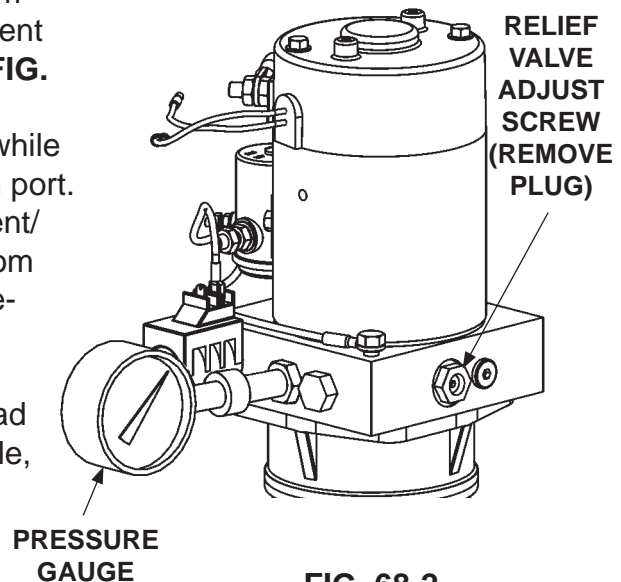

FIG. 68-2
3. With platform on the ground, remove the pressure hose and fitting from the pump and replace it with a 0-4000 PSI pressure gauge. Hold the switch in the "UP" position. Adjust the relief valve on the side of the pump until the gauge shows 3250 PSI (**FIG. 68-2**). Remove gauge and reinstall pressure hose.